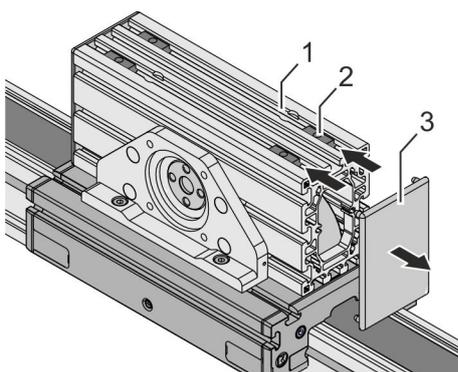

Fig. 27: Inserting slot stones
1. ➔	Remove the end cap (Fig. 27/3) of the pulley housing (Fig. 27/1) on the guide carriage.
2. ➔	Insert and position at least 2 slot stones (Fig. 27/2) each in the external slots of the pulley housing (Fig. 27/1).